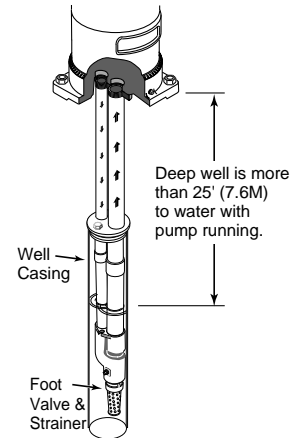

**Figure 1 – Suction pipe must not leak**
7. No air leaks in suction pipe. Use Teflon tape or Plasto-Joint Stik to seal pipe joints. Do not use pipe joint compound.(Fig. 1).